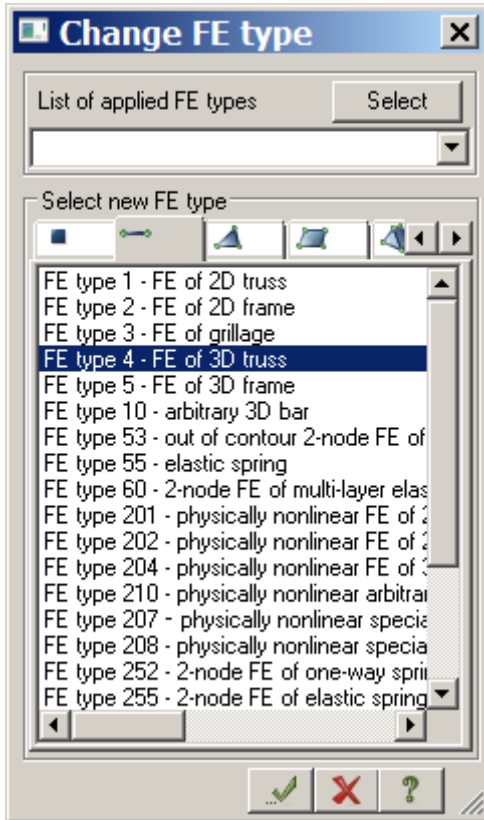

Figure 12.19 **Change FE type** dialog box
- ⇒ In the **Change FE type** dialog box (see Fig.12.19), in the list of FE types, select **FE type 4 - FE of 3D truss**.